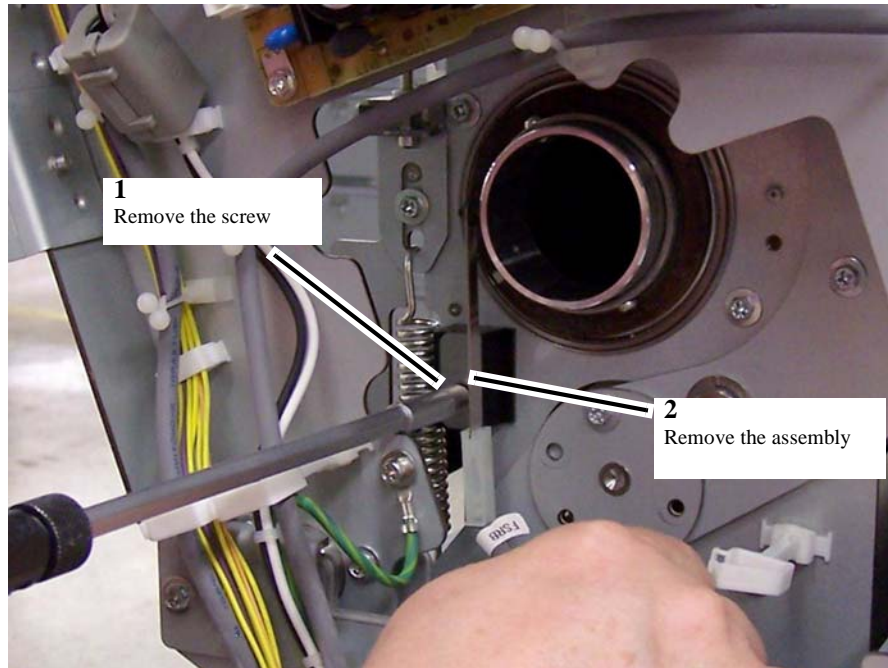

Figure 6 Removing the Fuser Bias Contact Plate Assembly
- a. Remove the Fuser Bias Contact Plate Assembly (Figure 6).